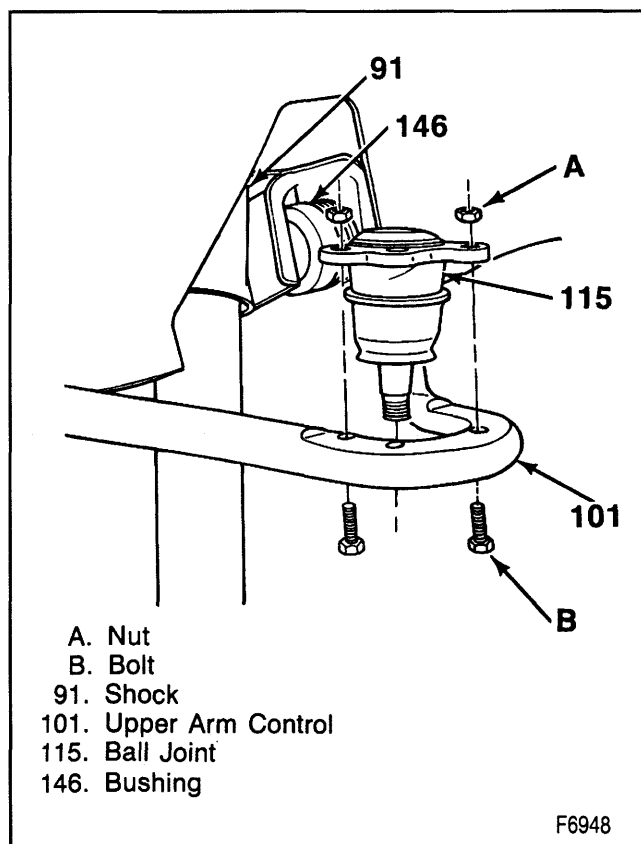

Figure 37—Installing the Upper Ball Joint
1. Ball joint (115) to the control arm.
2. Bolts (B) and nuts (A) to the ball joint (figure 37).